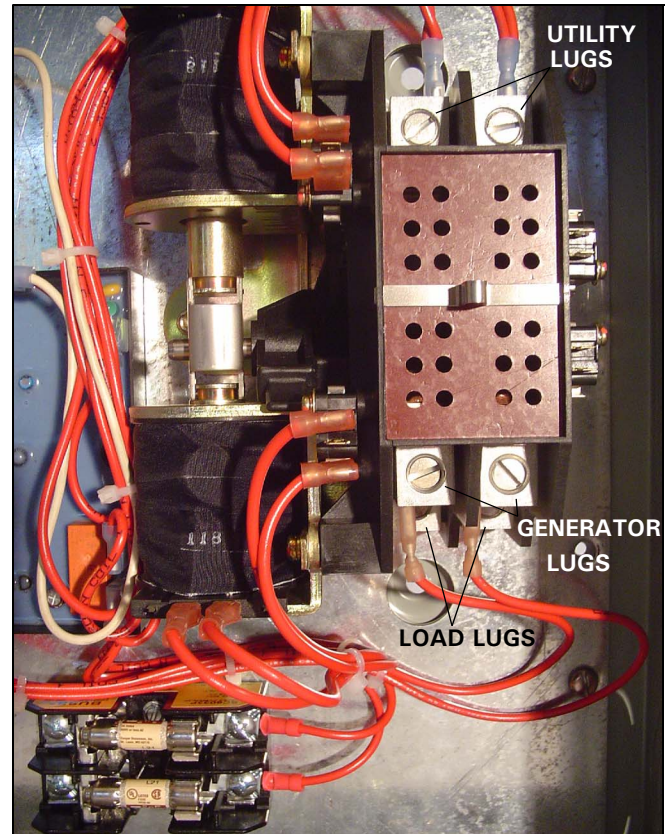

Figure 13. Cable Connection Locations (100 A).
Step 1: Connect cables as follows (see Figures 13 and 14, and Table 2):